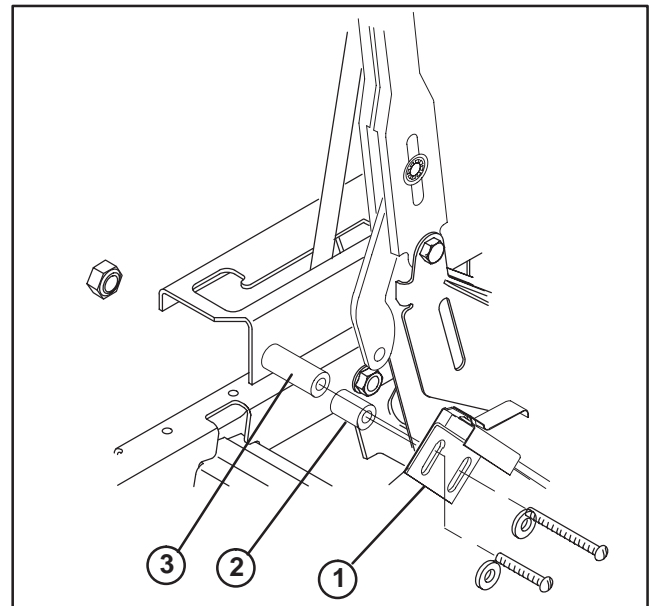

Figure 9
27. Loosely mount parking brake switch to vehicle console with (2) spacers, #10–24 screws, washers and nuts, as shown in figure 9. Different length spacers and screws are used to mount switch level.